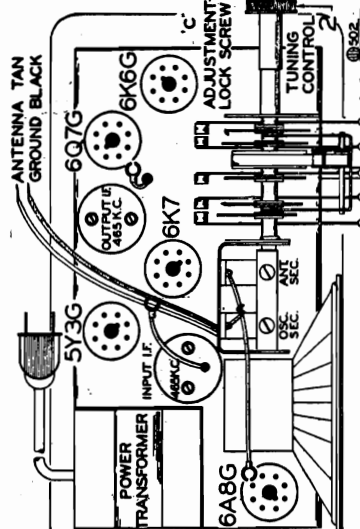

FIG. 1—TOP VIEW
Now hold tuning knob securely with left hand to prevent it from turning, or Rotate the tuning knob (No. 2) to the right (clockwise) as far as it will turn, and with a coin (half dollar), tighten the special locking screw ("C") in the center of the tuning knob. (See Fig. 1).
- These I.F. transformers have two adjustments, both of which are accessible from the top of chassis (see Fig. 1).
- With external oscillator set at 1720 kilocycles, adjust oscillator trimmer to resonance. This adjustment is on the top of rear section of variable gang condenser. (See Fig. 1).